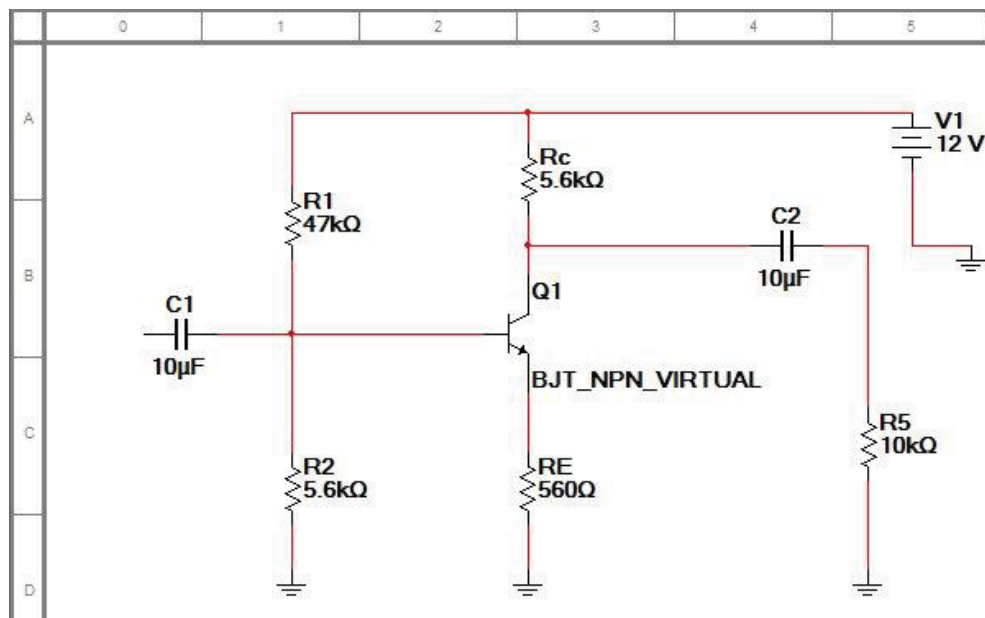

Figure 19
- Using the same procedure wire the rest of your circuit EXACTLY as shown in Figure 19.